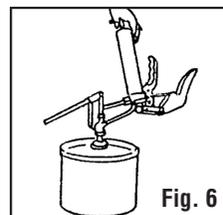

Fig. 6
2. Extend the level out on the grease gun and insert the loader fitting into the pump adapter and fill. (fig. 6)